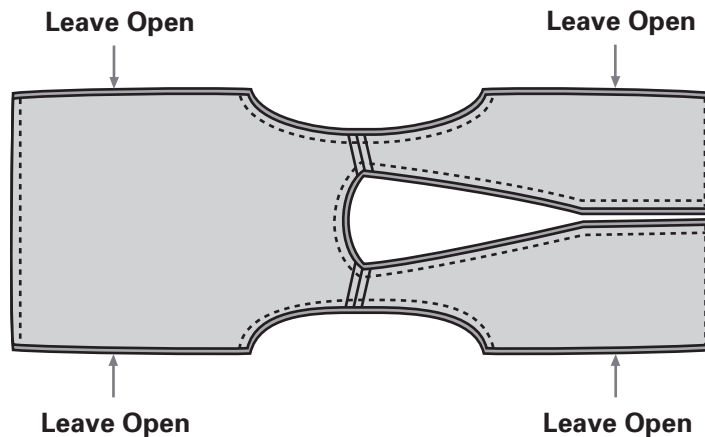

Fig. 11-5
9. Pin the lining to the vest with edges evenly aligned and right sides facing. Sew the vest and lining together as indicated, leaving the side seams open. (Fig. 11-5)